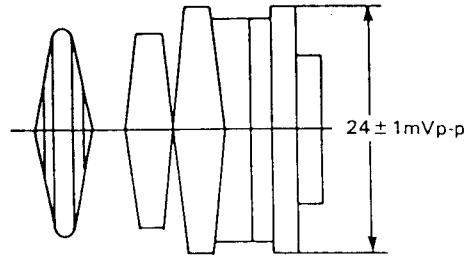

Figure 2-8.
- c) Adjust R518 (recording chroma control) to that the red level be $24 \pm 1mVp-p$ as shown in Fig.2-8.